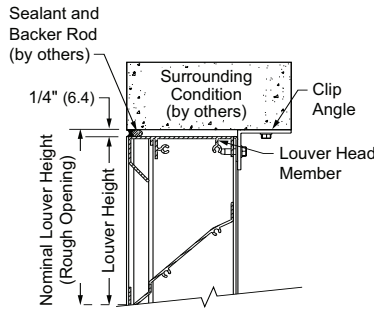

**Fig. 1.2 Sill Flashing Assembly**
- a. Caulk multiple section sill flashing at the overlapping joint(s) and firmly set. See fig. 1.2.
- b. When sill flashing end caps are required, caulk the underside of the end cap and firmly set over the top of the sill flashing taking care to butt the edge of the vertical leg snugly against the edge of the vertical leg of the sill flashing and adequately caulk the joining vertical seam. See fig. 1.2.